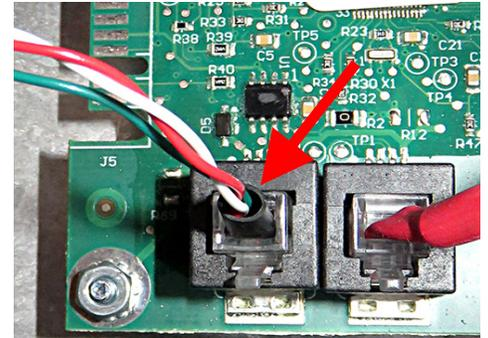

Figure 8
10. Connect the RJ11 cable with the red, white and green wires, removed from the translator board in step 7, to the open RJ11 connector on the FIB board, where the cable was removed in the previous step (see Figure 8).